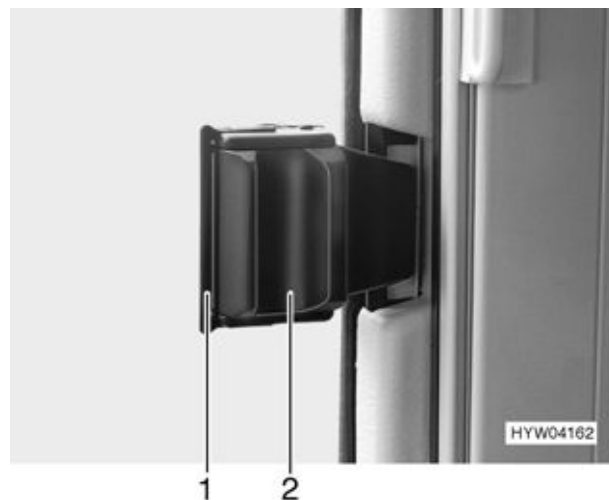

Fig. 35 Sliding window
- Pull the catch (Fig. 35,1) forwards.
- Press handle (Fig. 35,2) and push forward at the same time.